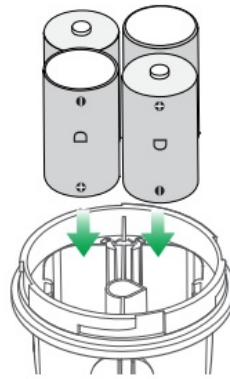

Figure 2
2. Insert batteries according to the polarity markings (+ and -) indicated inside the battery compartment (see Figure 2).